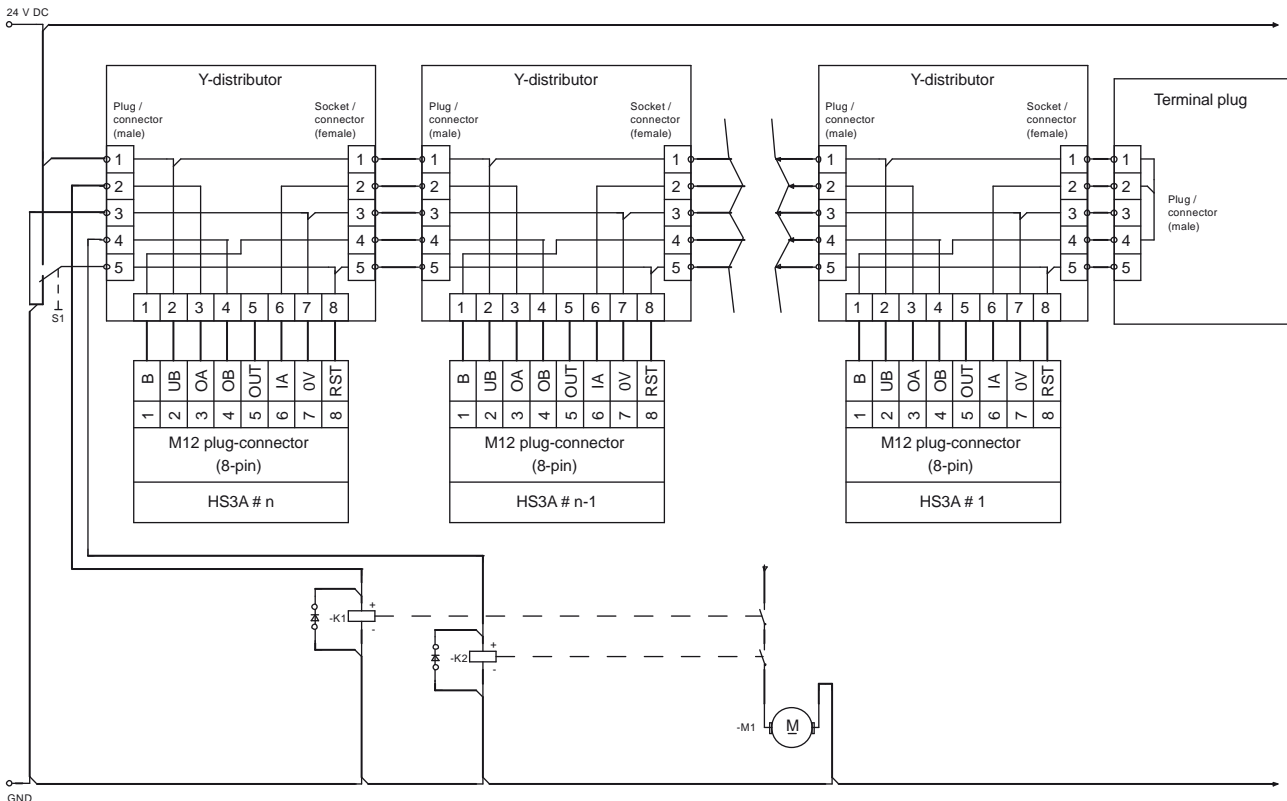

Figure 9: Connection example for series connection
- ▶ A common signal must be used for all switches in the chain. This can be a changeover switch or the output of a control system. A button is not suitable because Reset must always be be connected to GND during operation (see switch S1 in Figure 9).
Input RST must be connected as shown in *Figure 9 on page 19* to permit this.